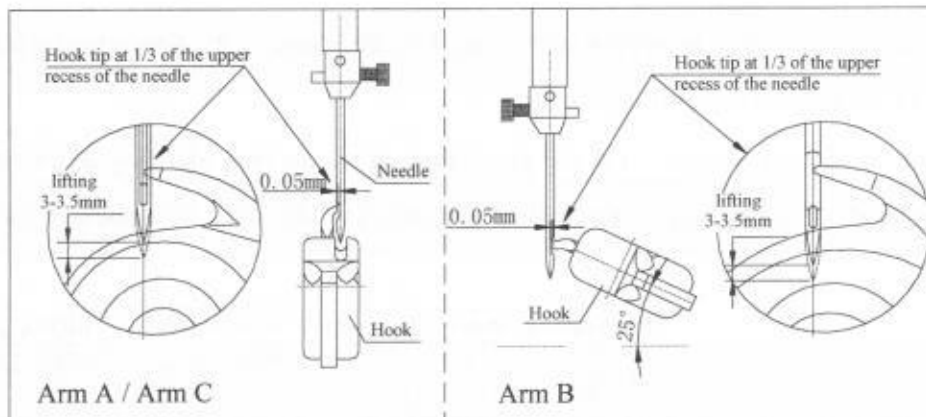
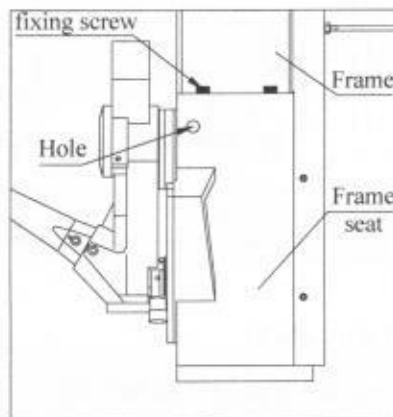

Fig 13
Fig 14
-- Loosen the two setting screws(M10) of the conical gear or of the driving sleeve(shaft) in the right hole of the frame seat.(Fig 14)
-- Turn the pulley in the correct direction. When the needle bar raise 3-3.5mm from its lowest position, the tip of the hook is just at 1/3 of the upper recess of the needle.(Fig 13)
-- The distance between the hook tip and the needle slot surface is 0.05mm(Fig 13). To adjust it, loosen the four M12 fixing screws(Fig 14) on the frame seat and move the frame.